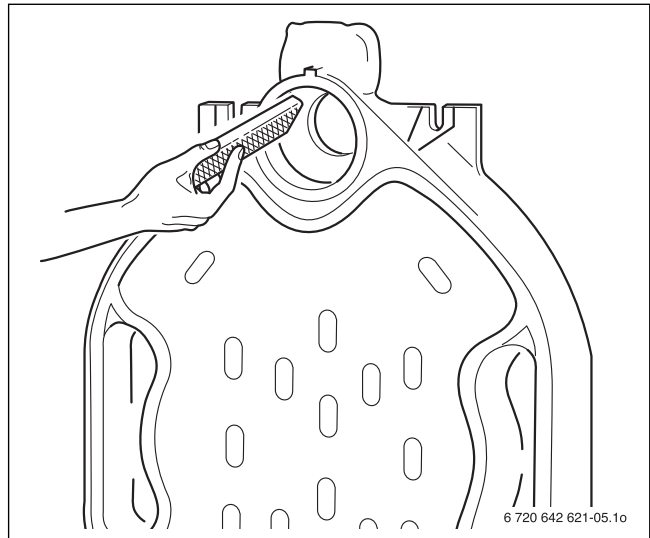

Fig. 12 Remove burrs
- ▶ File down any burrs on the hubs (→ Fig. 12).
- ▶ File down any burrs on the hubs (→ Fig. 12, page 14).